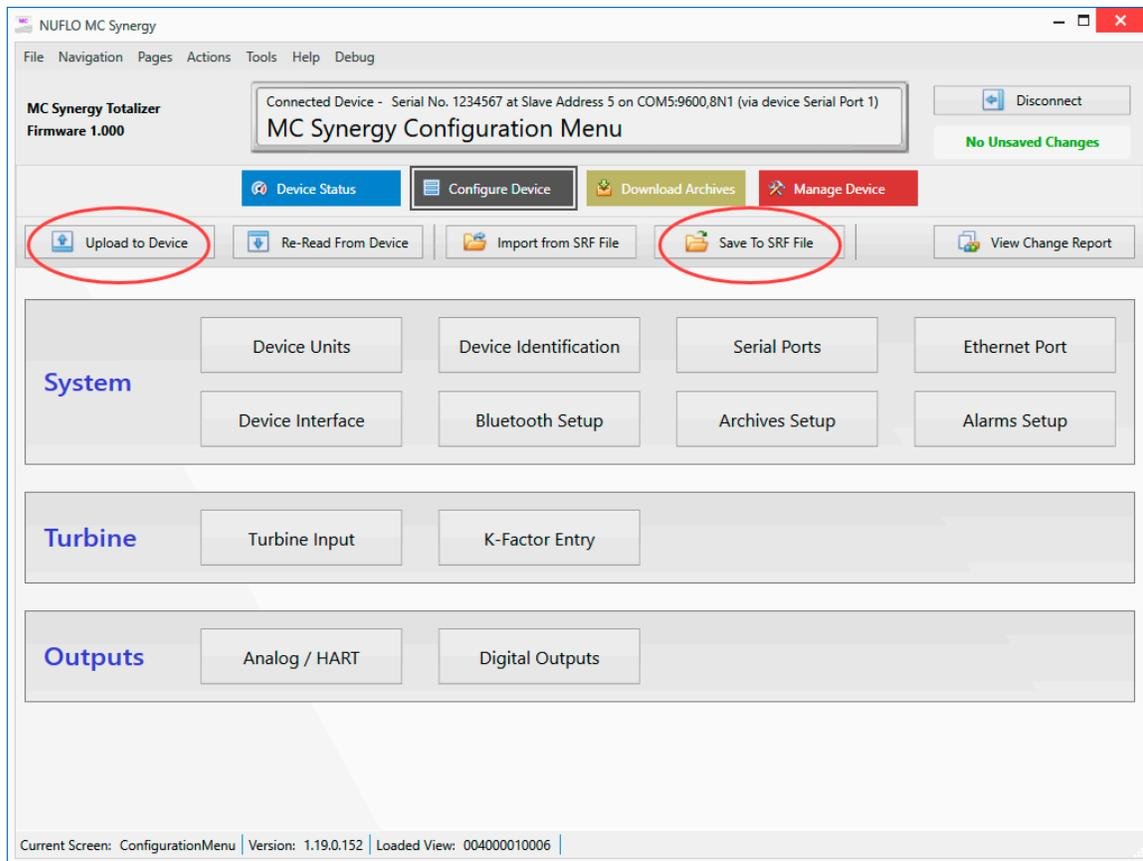

Figure 5.3—Buttons for uploading a configuration to a device or saving a configuration file to your computer
6. When your configuration selections are complete and saved, return to the main Configure Device screen and click Upload to Device (Figure 5.3, page 35) to save and apply the changes to the connected device.
To store the configuration in an SRF file on your local computer to be uploaded to a device at a later time, click **Save to SRF File** (Figure 5.3).